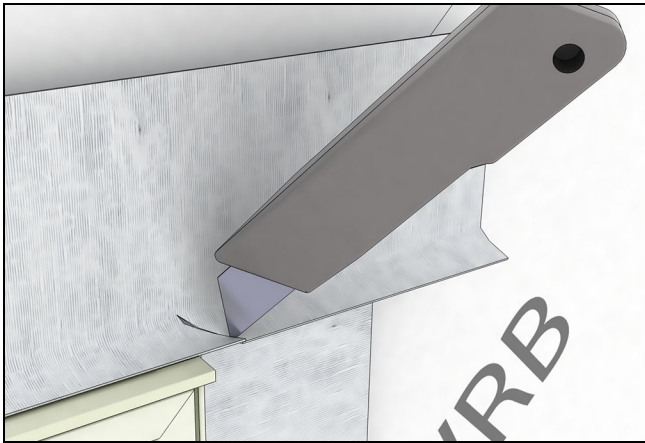
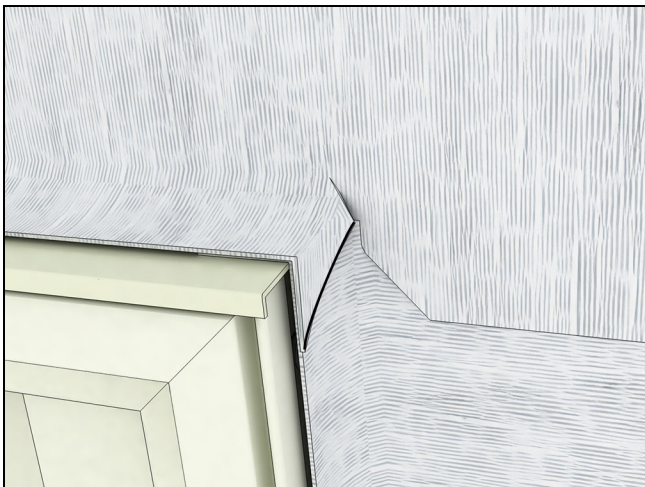

Figure 47
Figure 48
5. Install another layer of adhesive membrane lapping onto the head jamb of the unit and over the sheathing. The membrane flashing at the head jamb should extend and cover the flashing previously installed at the jambs. Make relief cuts and fold down so that it wraps around the jamb See Figure 47 and Figure 48.